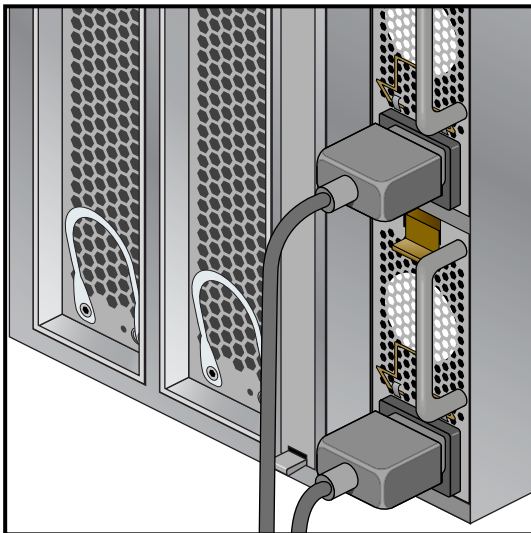

Figure 1-1 IRU Power Supply Cable Location Example
2. For each individual IRU that you want to power on, make sure that the power cables are plugged into all the IRU power supplies correctly, as shown in Figure 1-1. Setting the circuit breakers on the PDUs to the "On" position will apply power to the IRU and will start the system controller(s) in the IRUs. Note that the system controller in each IRU and Dense router stays powered on as long as there is power coming into the unit.